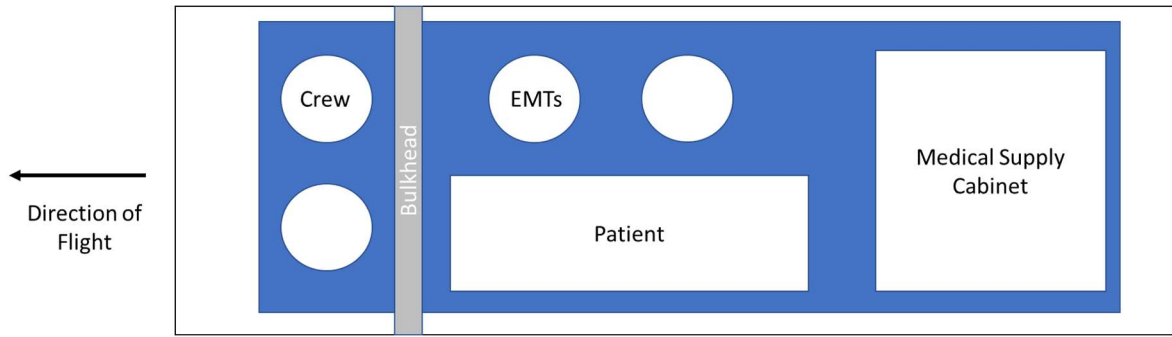

Figure 4. Medical Transport Mission Layout.
- The EMTs must be alongside of the Patient on the gurney as shown in Figure 4. The patient must be horizontal on the gurney parallel to the direction of flight. The Patient on the gurney can be placed on either side of the airplane / EMTs. The EMTs and Patient on gurney cannot touch each other or any part of the airplane other than the floor and restraint system or insert(s). The Medical Supply Cabinet can be forward or aft of the EMTs/Patient and must be secured from moving during taxi, take-off, flight, and landing.
- The Crew (Pilot and Co-Pilot) shall sit on a horizontal plane and be placed side-by-side without touching each other or any part of the airplane other than the floor and restraint system. The crew horizontal plane does not have to be co-planar with the passenger compartment floor. There must be a solid bulkhead between the Crew and Passenger compartment as shown in Figures 4 and 5.